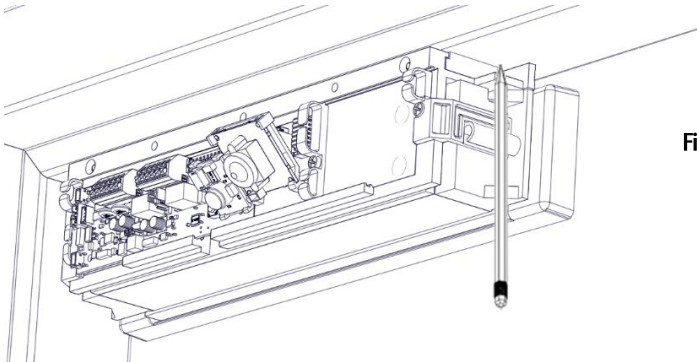

Figure 24. Marking the Back Edge of the Mounting Bracket
4. MARK back edge of mounting bracket at each end, and REMOVE the magnalock from the bracket (see Figure 24, "Marking the Back Edge of the Mounting Bracket").